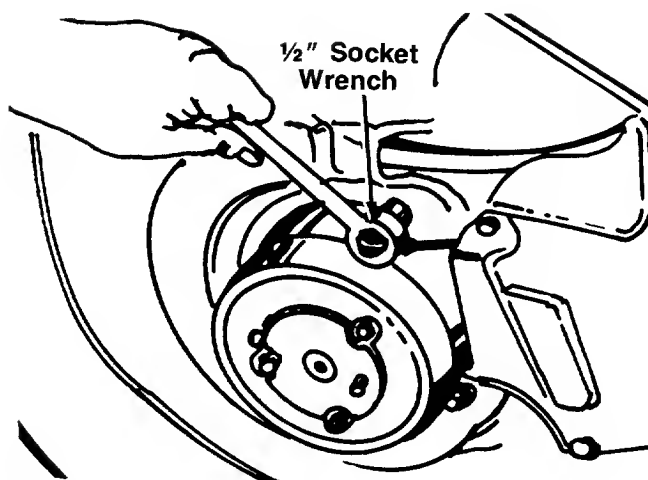

FIGURE 28.
11. Support the engine with one hand. Remove the three self-tapping screws which secure the deck and blade brake/clutch to the engine. A 1/2" socket wrench is required. See figure 28.